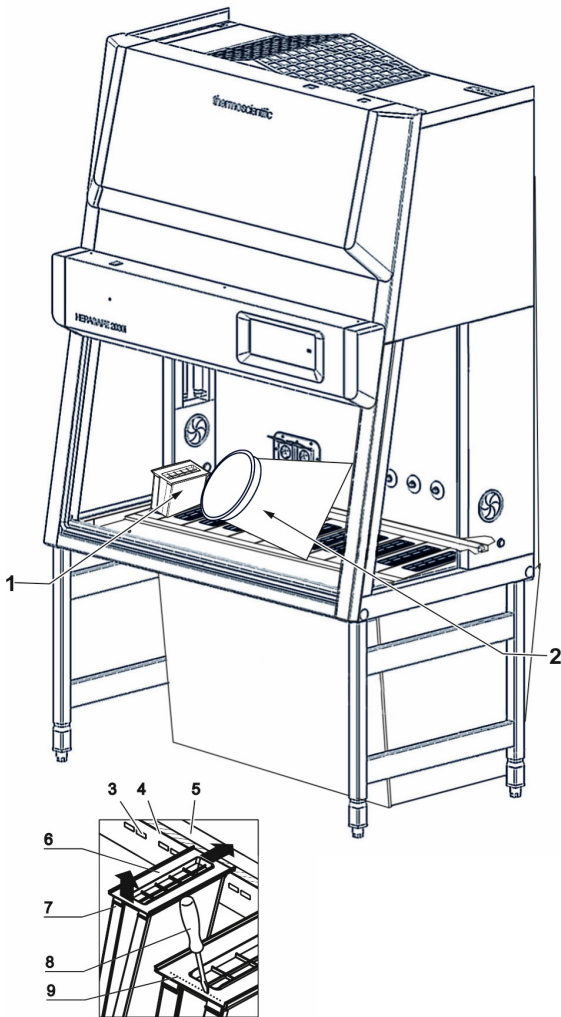

Figure 34. Pre-filter replacement
Figure 34: Each pre-filter element [1] is retained in the recess [3] of the floor-pan by two frontal retaining clips [7]. When the filters are to be replaced, a sufficient number of suited disposal containers [2] for the contaminated pre-filter elements must be available.
2. **Figure 34:** Remove the first pre-filter element [1] at the left side of the sample chamber: Press the filter plate [6] against the rear panel so that the retaining clips [7] on the opposite side disengage from the recess and the filter element can be lifted. If the clamping force is excessive, disengage the first pre-filter element: Perforate the rupture joint [9] at the filter plate [6] using a screwdriver [8] (or a similar suited instrument) so that the retaining clips can be pushed out of the recesses [3].